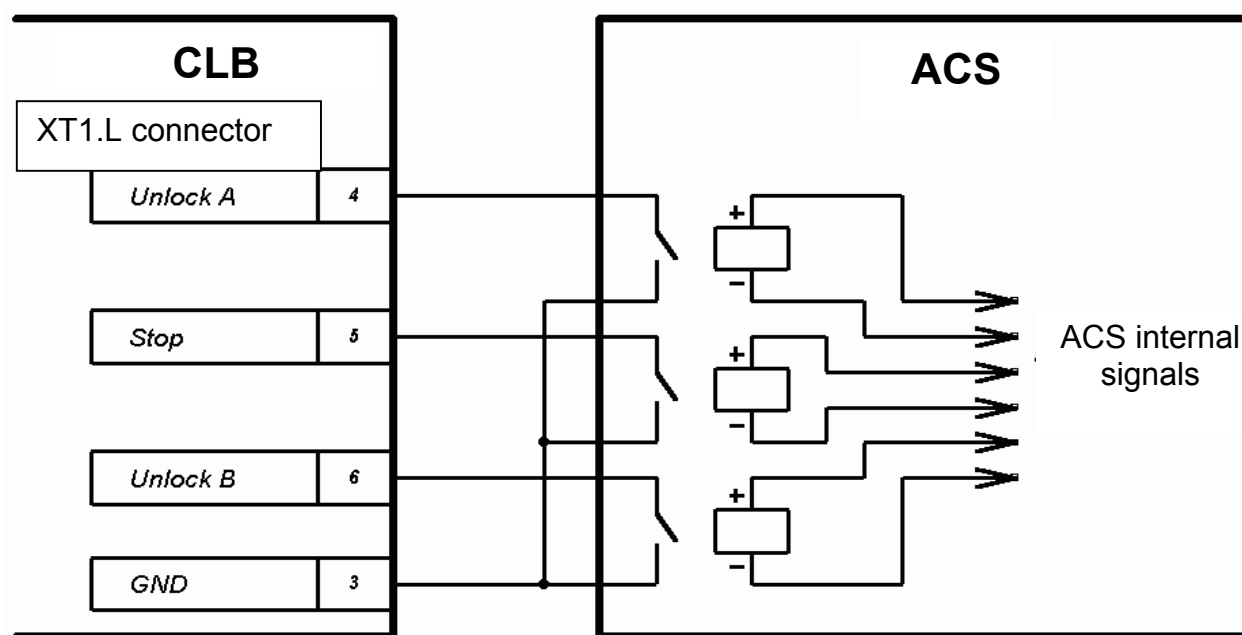

Fig. 5 ACS control element – relay normally open contact
5.4.2 The turnstile is operated by input of a low-level signal to the “XT1.L” connector block contacts “Unlock A”, “Unlock B” and “Stop” relatively to the “GND” contact. As the control element there can be used a normally open relay contact or a circuit with open collector output at that. At the emergency unblocking device input the turnstile control is carried out by elimination of a low-level signal from the “Fire Alarm” contact relatively to the “GND” contact. As the control element there can be used a normally closed relay contact or a circuit with open collector output at that (see Fig. 5 and 6).